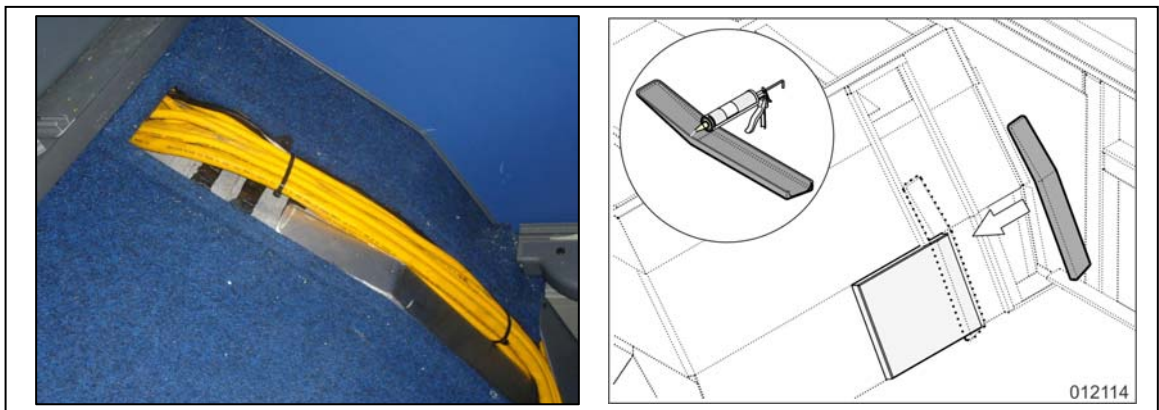

Figure 3
3. Remove the existing cable clamps of the 110Vac cables. Reroute the 110Vac cables so that they come as much as possible beside each other. Secure the 110Vac cables with new cable ties (refer to figure 3).
4. Secure the additional filler piece 11466813 for the 110Vac cables with sealant 10521593 to the wheel housing (refer to figure 3). The kink in the filler piece should correspond with the kink of the wheel housing.